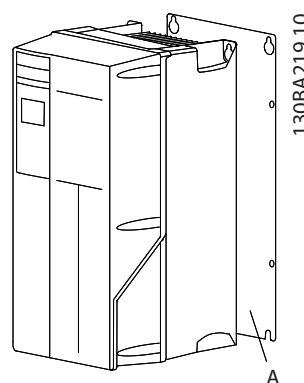
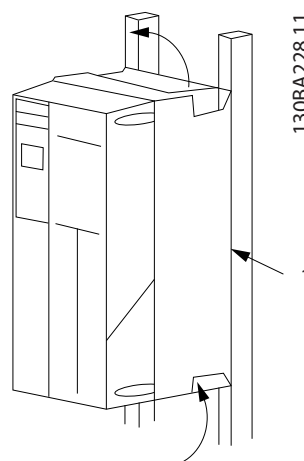

Figure 2.2 Proper Mounting with Backplate
Figure 2.3 Proper Mounting with Railings
- Mount the unit onto a solid flat surface or onto the optional backplate to provide cooling airflow (see *Figure 2.2* and *Figure 2.3*).
Item A in *Figure 2.2* and *Figure 2.3* is a backplate properly installed for required airflow to cool the unit.